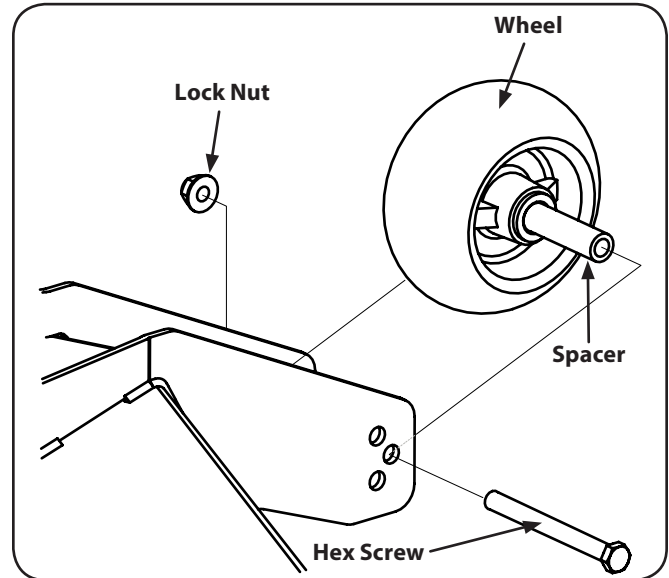

Figure 6-8
2. Remove the lock nut securing one of the front gauge wheel hex screws to the deck. Remove the gauge wheel, hex screw and spacer. See Figure 6-8.